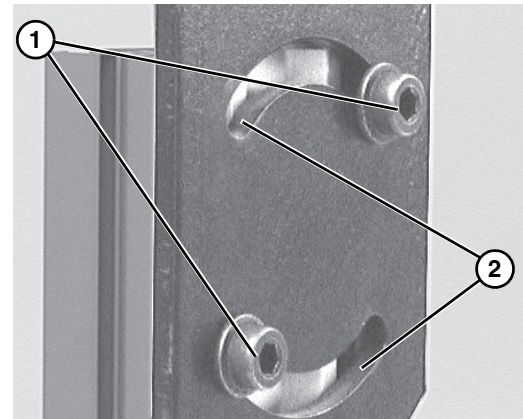

Figure 24
To rotate stand top plate, screws (Figure 24, item 1) may need to be re-located to other t-slots (Figure 24, item 2).
1. Loosen flange socket screws (Figure 24, item 1) on both sides of stand.
<p>Failure to secure screws (Figure 24, item 1) may cause conveyor sections to drop down, causing severe injury.  TIGHTEN SCREWS (Figure 24, item 1) AFTER ADJUSTMENT.</p>
3. Secure flange socket screws (Figure 24, item 1) to 24 ft-lb (18 Nm).